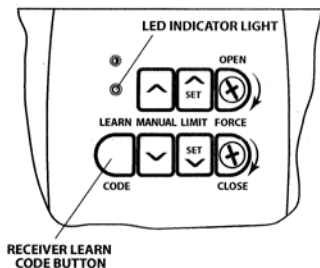

Fig. 1
- Step 2-2** Press and release the Learn Code Button **Fig. 1**.